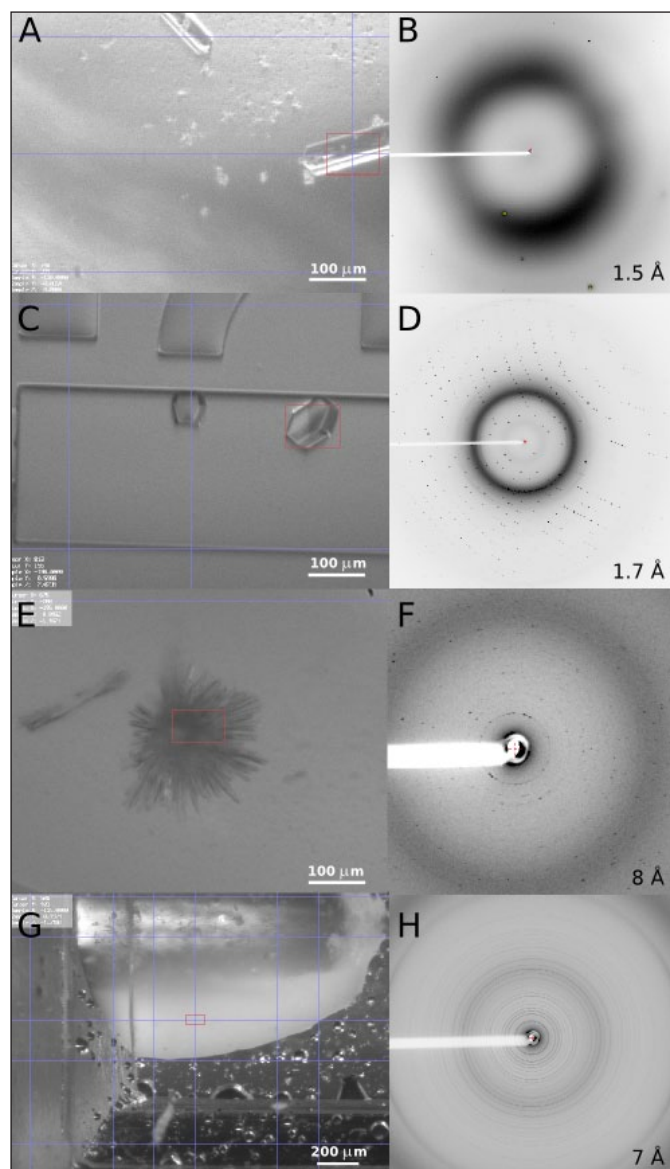

Figure 2: **Examples of *in situ* diffraction screening experiments.**
- Fast discrimination between salt (Figure 2 A, B) and macromolecular crystals (Figure 2 C, D, E, F, G, H)
- Assessment of diffraction quality from crystals, identification of the best crystallisation conditions or searching for new space groups (Figure 2 C, D)
- Identification of small and low diffracting crystals, including crystalline precipitate or nanosized crystals (Figure 2 G, H)